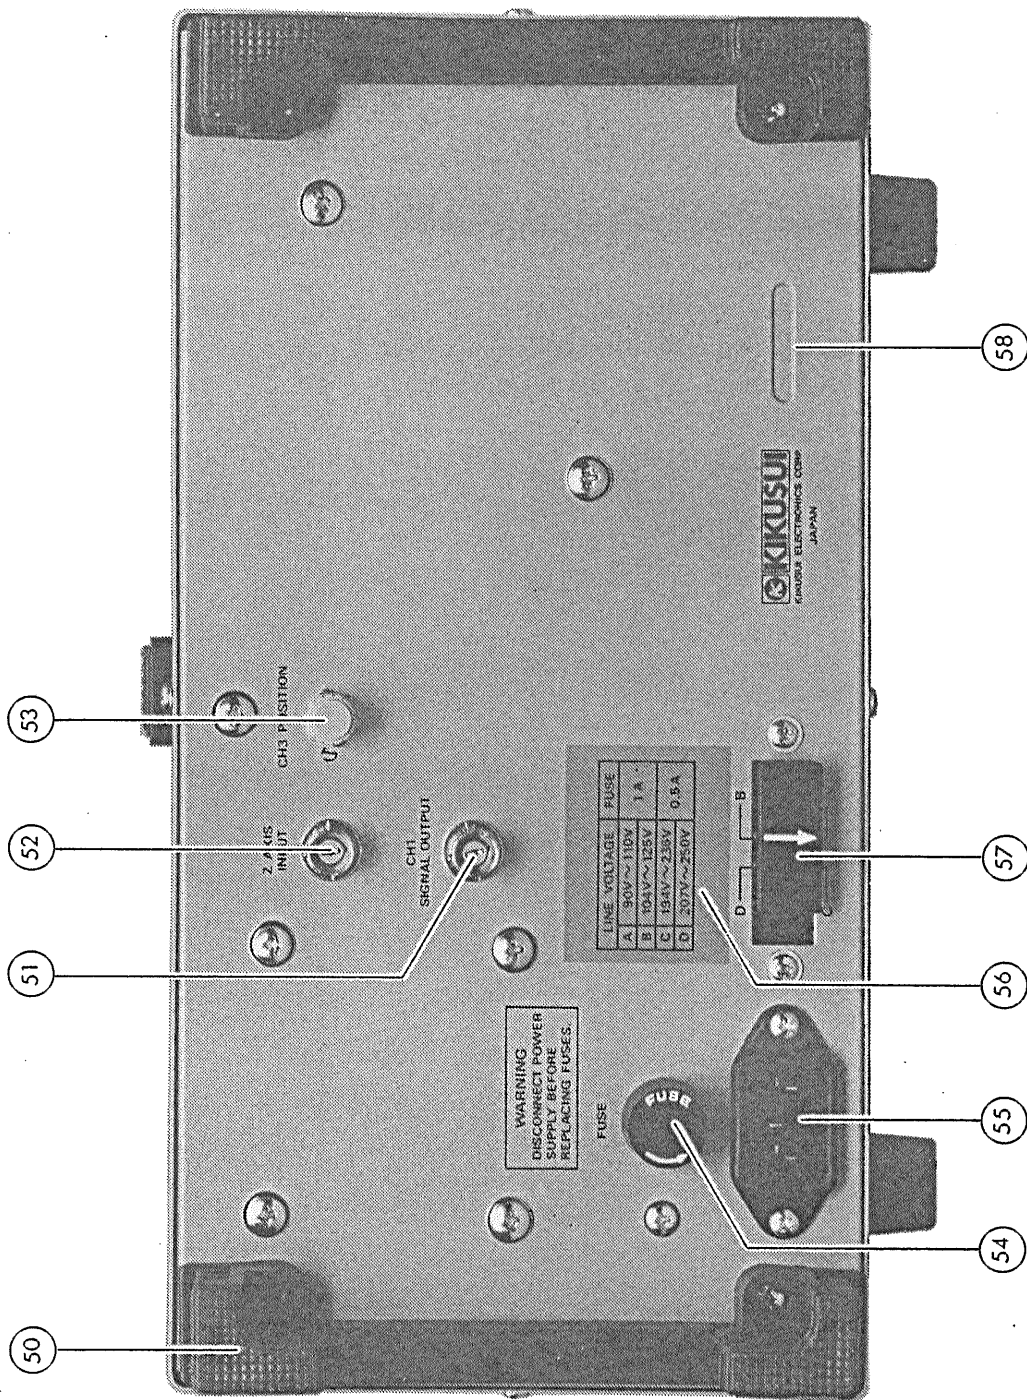

Figure 4-2
4.2 Explanation of Rear Panel (See Figure 4-2.)
- o CH1 SIGNAL OUTPUT ... (51) This output terminal provides CH1 signal which can be fed to a frequency counter, etc.